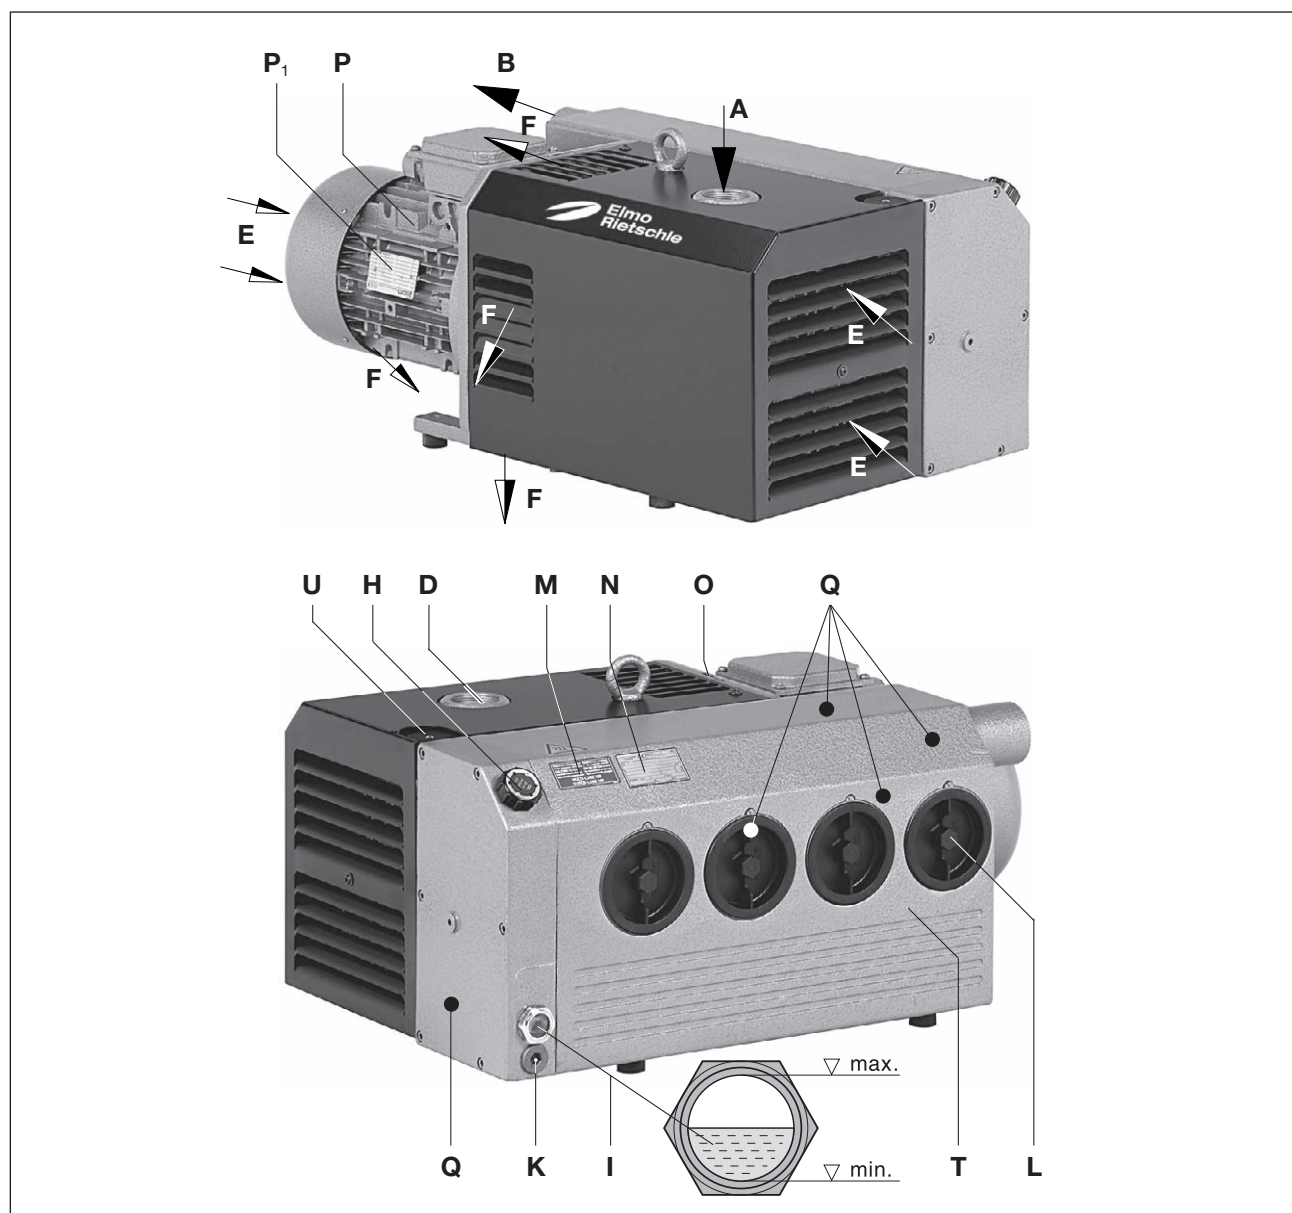

Fig. 2 Vacuum pump V-VC 50 - V-VC 150
A gas ballast valve fitted as standard (Fig. 2/U) prevents condensation of water vapour in the inside of the pump when low amounts of steam are sucked in when the pump is at operating temperature. A reinforced gas ballast (optional) can be used if there is a higher amount of water vapour.
The suction flange (Fig. 2/D), oil filling point (Fig. 2/H), oil sight glass (Fig. 2/I), oil outlet (Fig. 2/K), gas ballast (Fig. 2/U) and the oil removing device housing (Fig. 2/T) must be easily accessible. The cooling air inlets (Fig. 2/E) and the cooling air outlets (Fig. 2/F) must be at least 30 cm away from adjacent walls. Cooling air coming out must not be sucked in again. For maintenance work there must be a space of at least 40 cm around the machine.
**Sealing or constricting of the exhaust air outlet (Fig. 2/B) may lead to severe or fatal injuries!**
- a) The vacuum connection (Fig. 2/A) can be found on the suction flange (Fig. 2/D).
- b) The discharged air can be freely blown out through the exhaust air hole (Fig. 2/B) or conducted away using a hose or pipe.
- a) Fill the lubricating oil (for suitable types see the "Maintenance" section) via the oil filling point (Fig. 2/H) up to the upper edge of the sight glass (Fig. 2/I).
- a) The motor's electrical data is given on the data plate (Fig. 2/N) or on the motor data plate (Fig. 2/P1). The motors comply with DIN EN 60034 and are in protection class IP 55 and insulation class F. The appropriate connection diagram is located in the motor's terminal box (not for the plug connection version). Compare the motor data with the data of the existing mains network (current type, voltage, network frequency, permitted current value).
When the machine is at operating temperature the surface temperatures on the components (Fig. 2/ Q) may go above 70°C.
- ▷ The drive shaft direction of rotation is shown by the rotation direction arrow (Fig. 2/O) on the motor flange.
- b) After correcting the direction of rotation if necessary, start the motor again and stop it again after 2 minutes in order to top missing oil up to the upper edge of the sight glass (Fig. 2/I). This topping up at the filling point (Fig. 2/ H) must be repeated until all the oil pipes have been filled completely. The filling point must not be open when the pump is running.